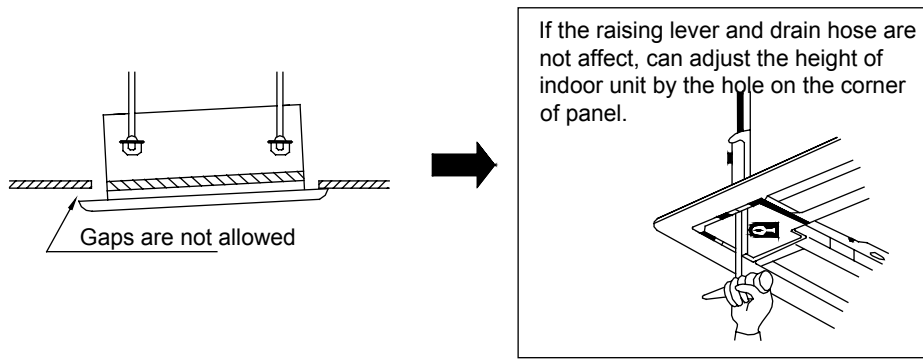

Fig. 13
- ② . If the gap still exists between the ceiling and the decoration panel after tightening the screws, readjust the height of the indoor unit. (As shown in Fig. 13)